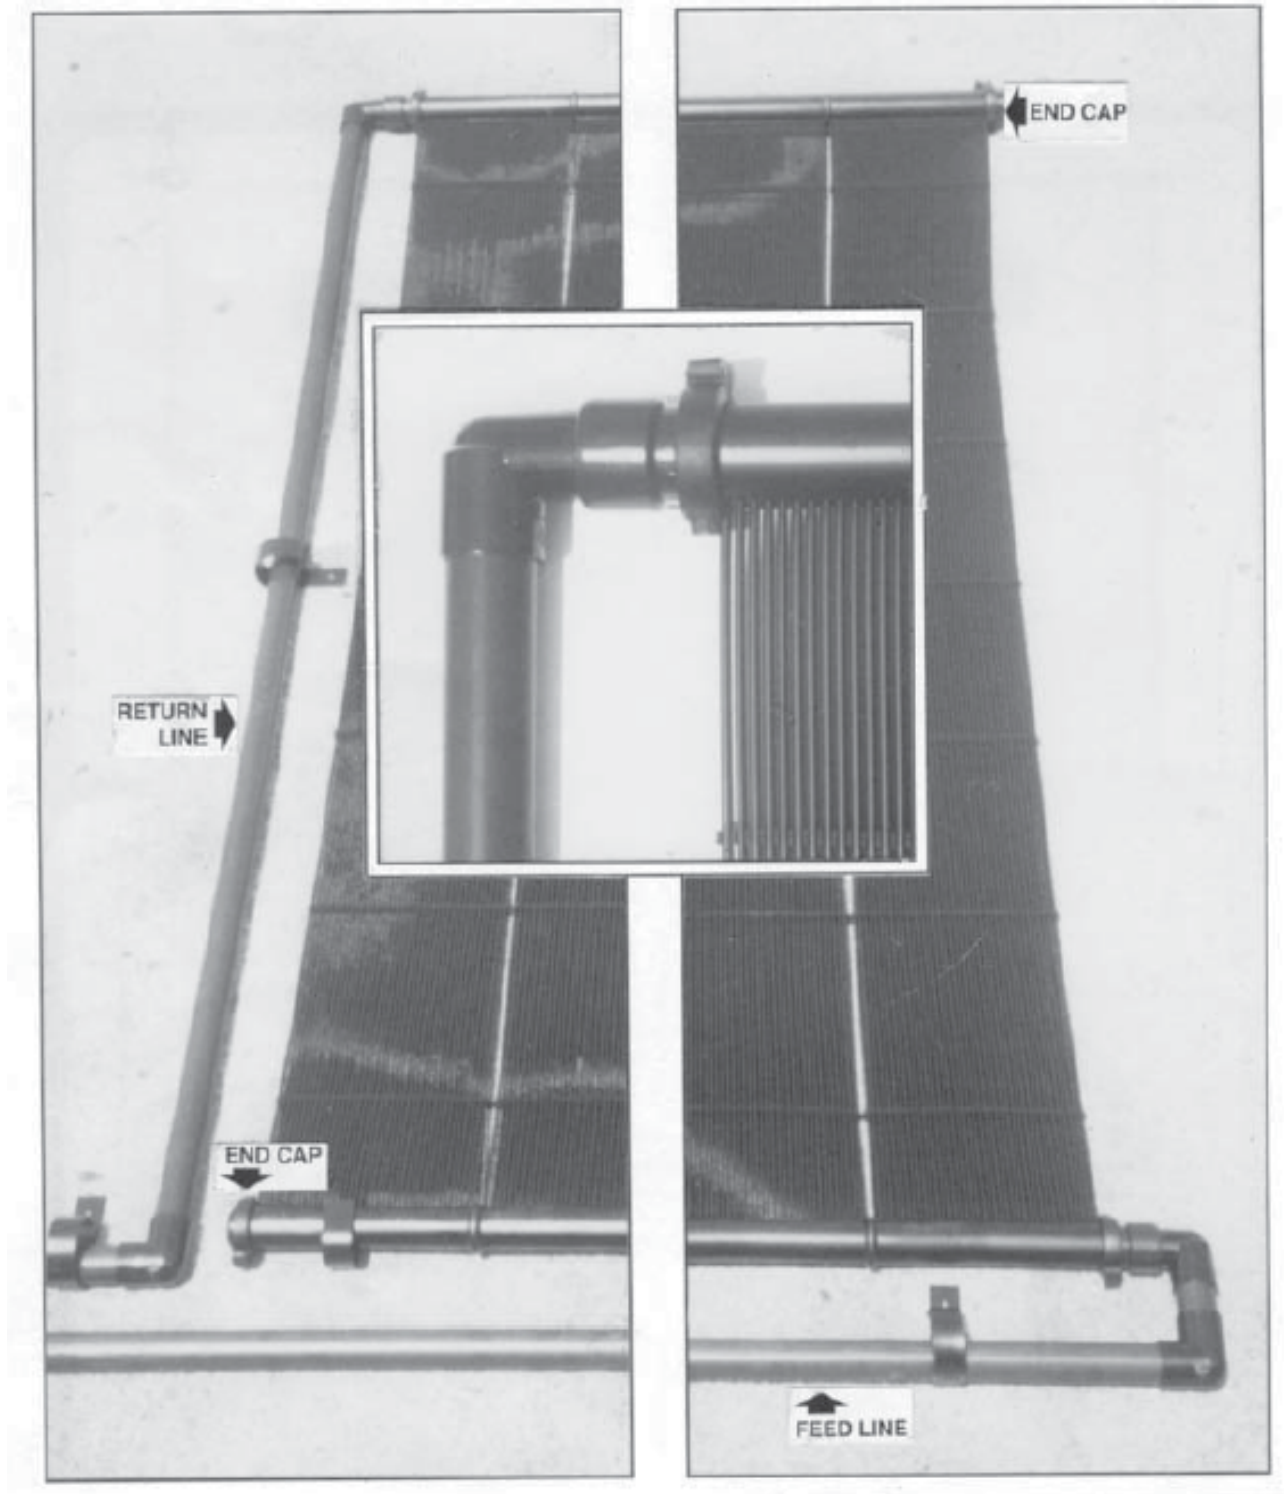

Fig. 13
1. Cement the appropriate size PVC 90-degree elbow to the return line connection facing down toward the bottom manifold. Repeat the process for the feed line manifold connection and face the elbow down away from the bank. (Fig. 13)